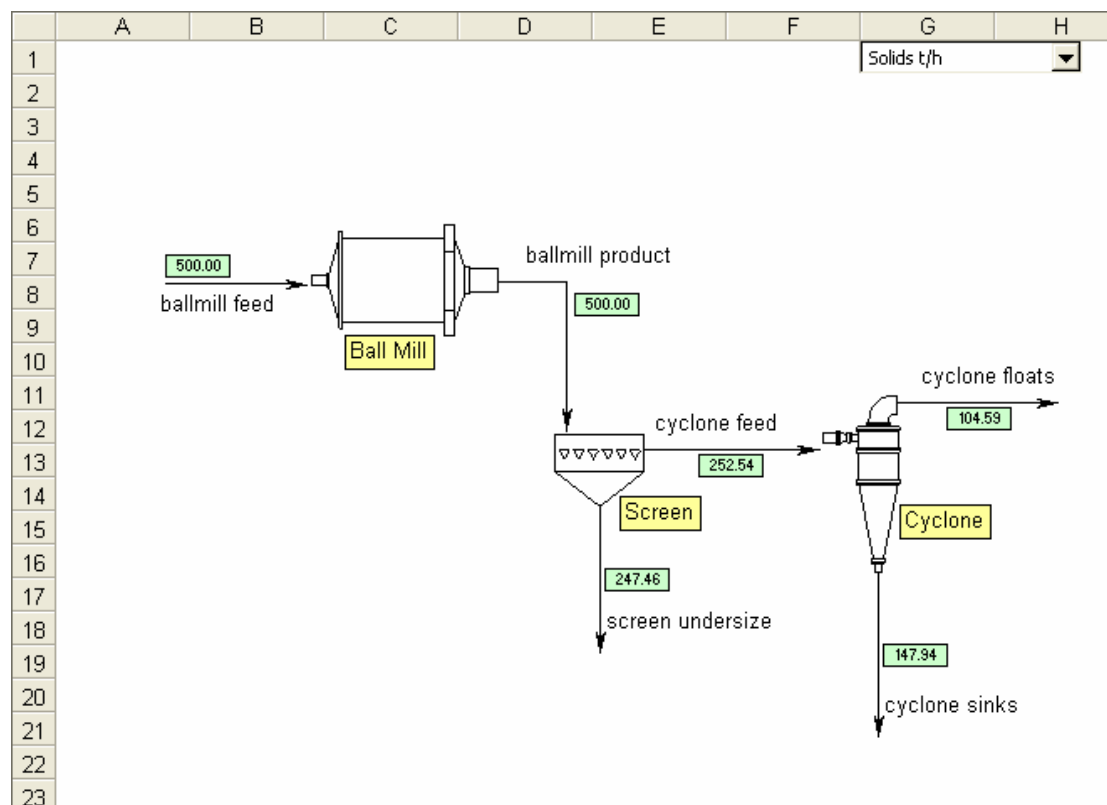

Figure 22: The solved flowsheet
5.3 Check that the values for the different streams are the same as figure 22 above.